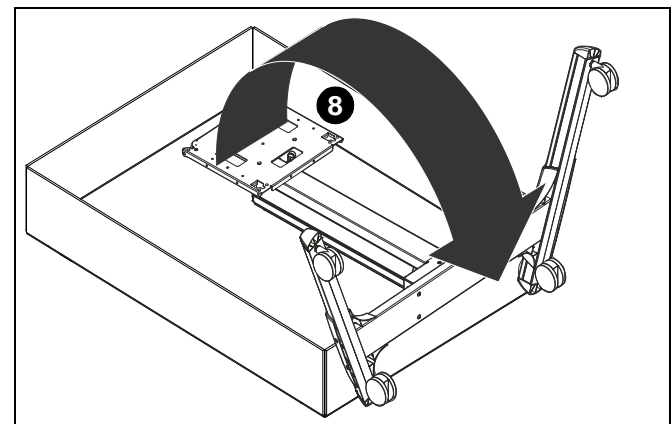

Figure 4
8. Remove cart from box by tipping it from the top onto its wheels. (See Figure 4)